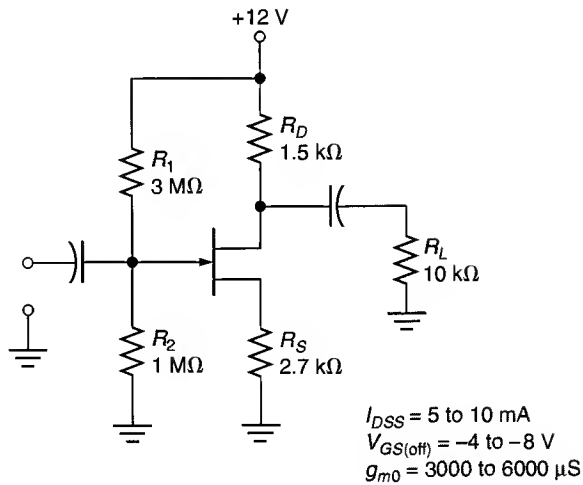

FIGURE 12.61
24. Determine the ranges of I_D and V_{DS} for the circuit shown in Figure 12.61.
32. Determine the range of A_v values for the circuit shown in Figure 12.61.
38. Determine the value of Z_{in} for the amplifier in Figure 12.61.